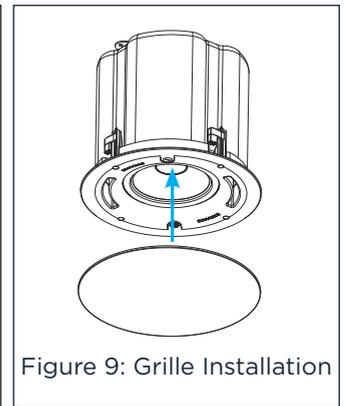

Figure 9: Grille Installation
8. After the loudspeaker is installed, and transformer tap adjustments are made, the grille can be installed. The grille is held in place by several small, powerful magnets on the loudspeaker frame. Place the grille against the loudspeaker and the magnets will hold it firmly in place. When properly installed, the grille should make contact with the wall all the way around the loudspeaker (see Figure 9).